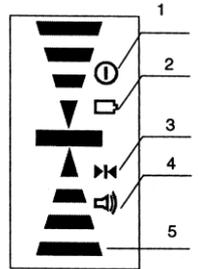

图 2
- (1) Receiving window (5) Coarse/Fine detection (9) Battery-box Cap
- (2) Sound switch (6) Power key (10) Downward LED display
- (3) illumination key (7) upward LED display (11) Magnet
- (4) LCD display window (8) Middle ward LED display (12) Buzzer
(II) Display(see figure 2)
- (1) Power indicator (2) Low battery indicator
- (3) Detection indicator (4) Sound indicator
- (5) Detected position (grade) indicator